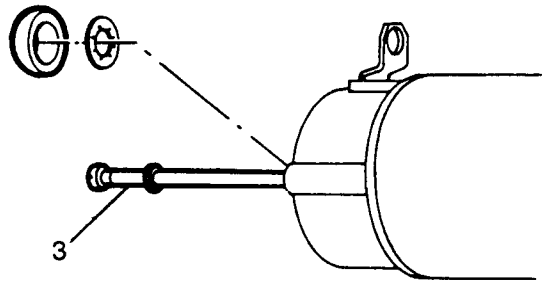

Fig O6.21
(3) Refer to Fig O6.21. Fit the two through bolts (3) and tighten to a torque of 10,84 N.m.